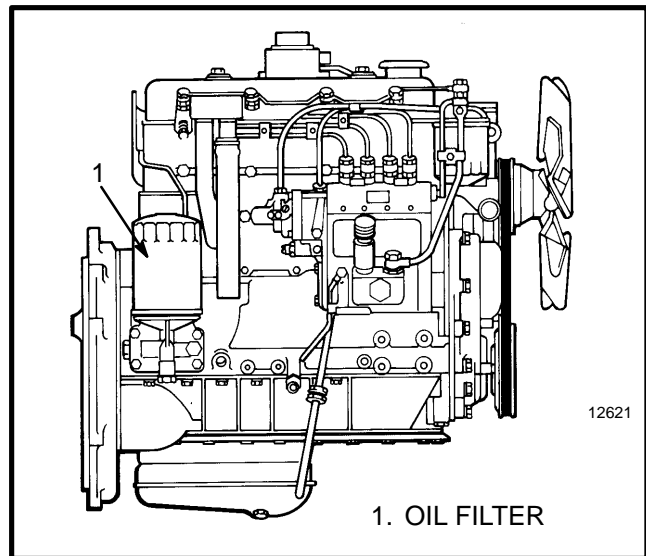
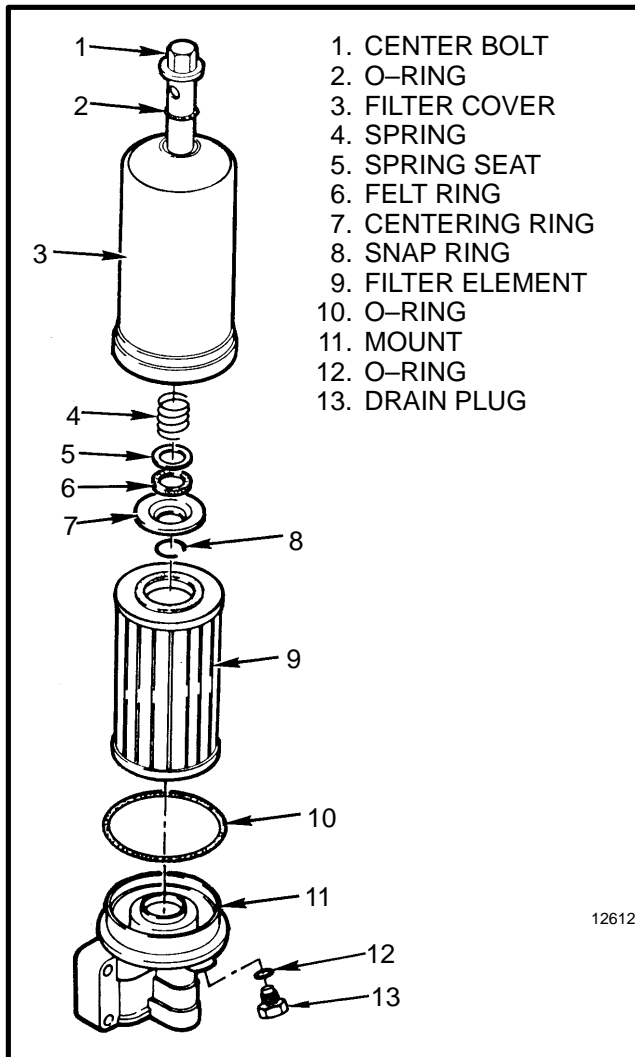

FIGURE 61. OIL FILTER ASSEMBLY, LATER PRODUCTION
FIGURE 62. OIL FILTER, EARLIER PRODUCTION ISUZU ENGINES
NOTE: Isuzu diesel engines installed in later production lift trucks use an oil filter as shown in FIGURE 61. Isuzu diesel engines installed in earlier production lift trucks use an oil filter with a separate filter element as shown in FIGURE 62.
Earlier Production. Replace the oil filter as described in the section, **PERIODIC MAINTENANCE**. The relief valve opens to release pressure at 560 to 620 kPa (80 to 90 psi). Change the oil filter at the same time engine oil is changed. Use the correct oil according to the specifications. See FIGURE 62. Remove the drain plug (14) in the mount for the filter and drain the oil. Loosen the center bolt and remove the filter cover (3) and filter element (9). Clean the filter cover and install a new filter element. Make sure the O-rings and other parts are in their correct positions. Tighten the center bolt for the filter cover. Check for leaks when the engine can be operated.